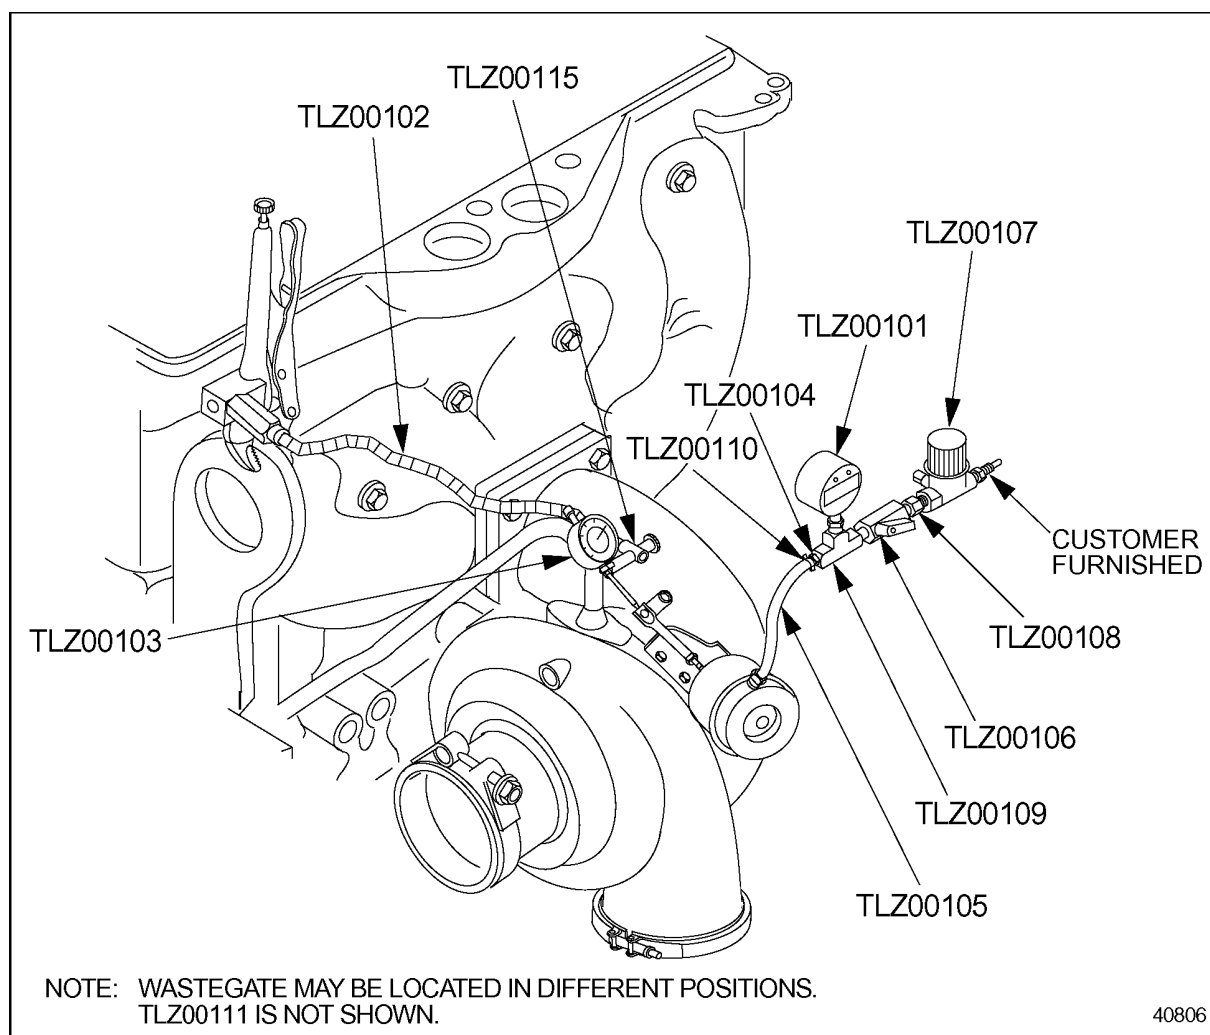

Figure 6-23 Wastegate Adjustment
1. Loosen the jam nut that secures the rod end on the actuator rod. If locking collar is present on the actuator rod, remove and discard collar. See Figure 6-23.
3. Using pressure gage setup, apply enough pressure to the top side actuator can port until the rod begins to move, lifting the wastegate valve off its seal. See Figure 6-23.